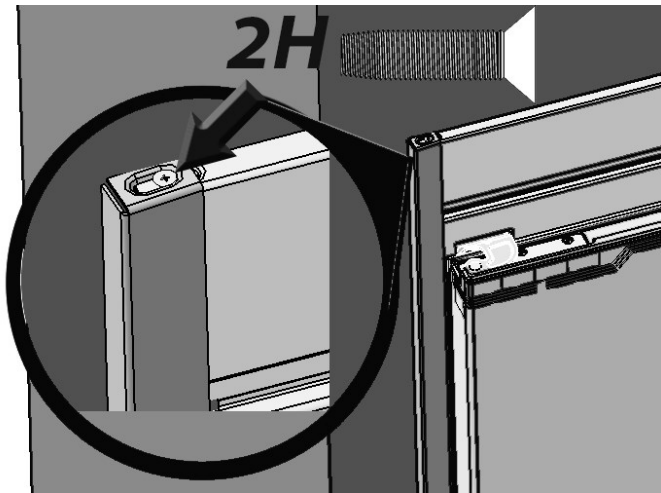

Figure 20
15. a. Place side trims in position by dropping them over the placement screw as seen in Figure 16 and fitting over the top trim (Figure 20).
- b. Fasten 2H screw to each side of top trim (Figure 20).